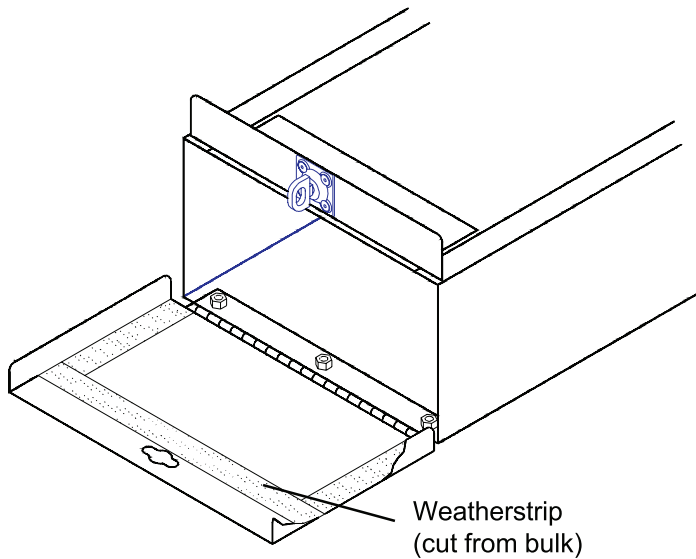

**Figure 2. Weatherstripping Rear Body Assembly**
**1.** Cut and adhere Weatherstripping over the Door Stop mounting holes on the Rear Body Assembly (see Figure 2.).